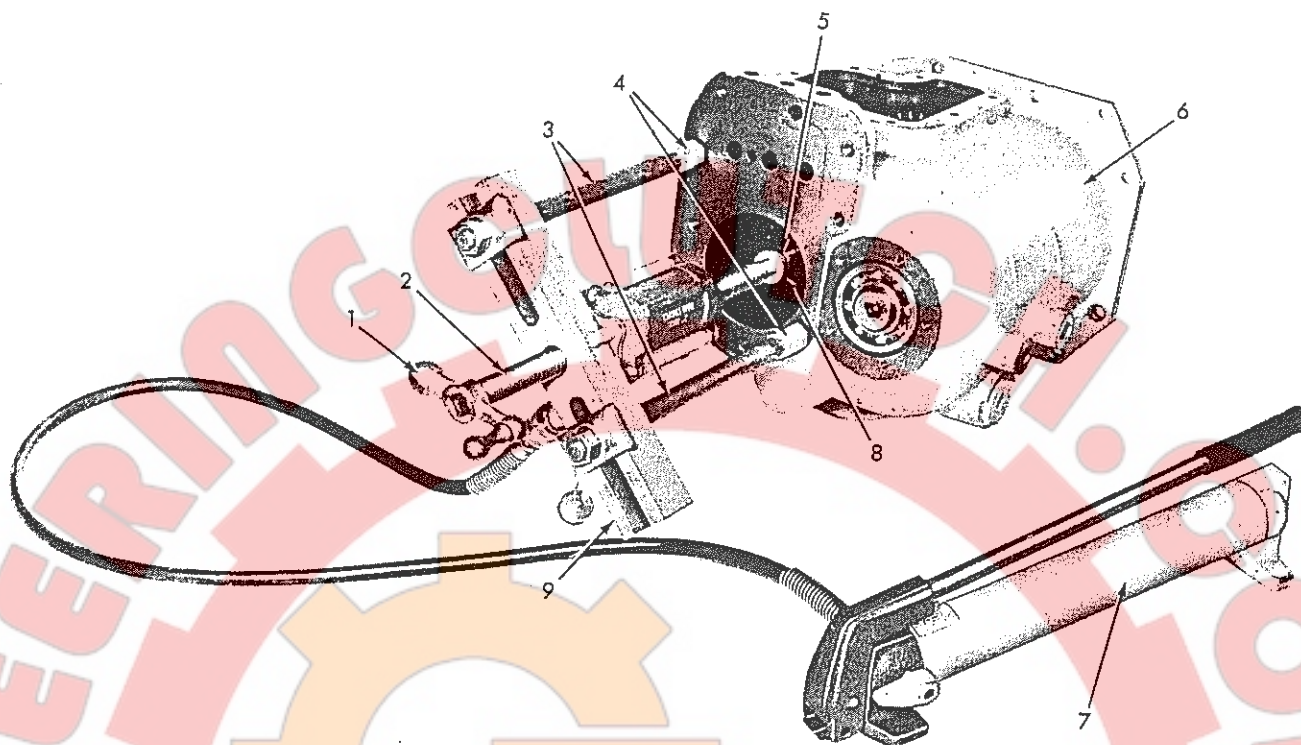

Fig. 11 Removing Pinion Shaft
13. Refer to Fig. 11, assemble tools as shown and press pinion shaft toward rear of transmission until rear bearing is free of its bore. Remove tools and pull pinion shaft from case; remove shaft components as they are free of shaft. Tie pinion depth adjustment shims together and lay aside for reuse in assembly.